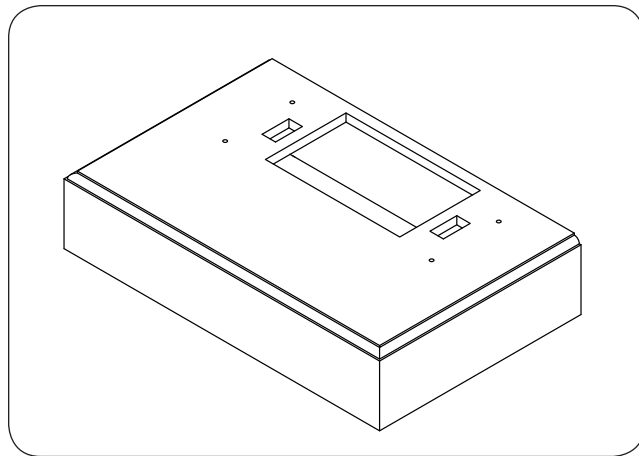

Fig. 13-1 Place hearth
1. **CAREFULLY** place the hearth piece in an appropriate location (refer back to the LOCATION section if needed). See Fig. 13-1.